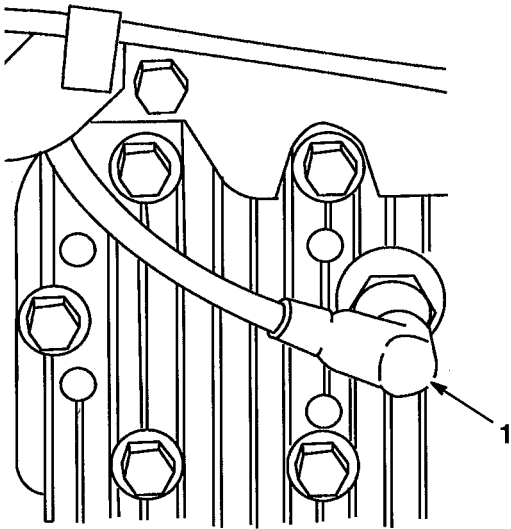

Figure 3
1. Pull wire off spark plug (Fig. 3).
5. Connect spark plug wire (if disconnected) (Fig. 3).